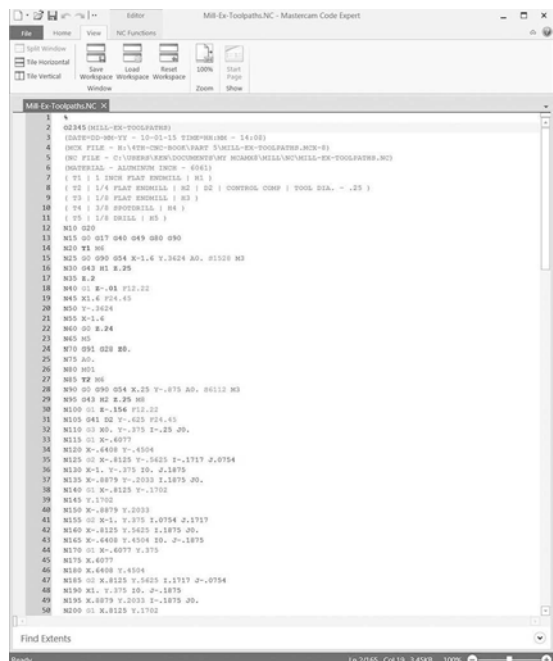

Figure 5-55 Mill Example Posted Paths
8. Select all Operations and press the Post selected operations icon (G1). Figure 5-55 displays the posted tool paths.